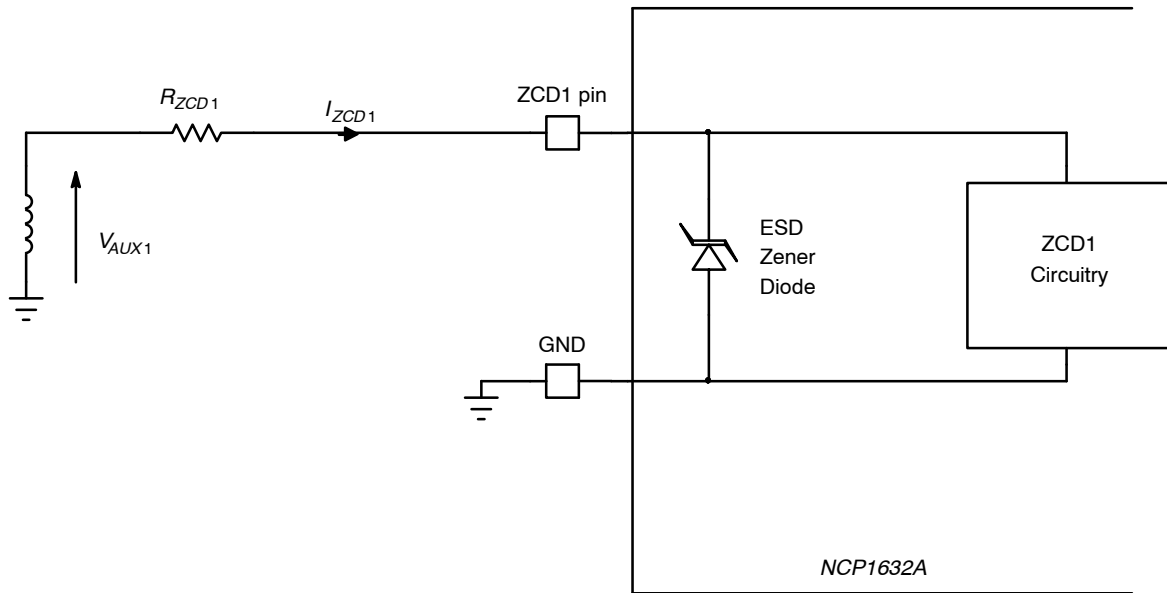

Figure 2. Limit the ZCD1 Pin Current ( $I_{ZCD1}$ ) between  $-5\text{ mA}$  and  $5\text{ mA}$  (the Same is Valid for the ZCD2 Pin)
- These maximum ratings (-0.3 V / 9.0 V) guarantee that the internal ESD Zener diode is not turned on. More positive and negative voltages can be applied to the ZCD1 pin if the ESD Zener diode current is limited to 5 mA maximum. Typically, as detailed in the Zero Current Detection section, an external resistor is to be placed between the ZCD1 pin and its driving voltage to limit the ZCD1 source and sink currents to 5 mA or less. See Figure 2 and application note AND9654 for more details. The same is valid for the ZCD2 pin.